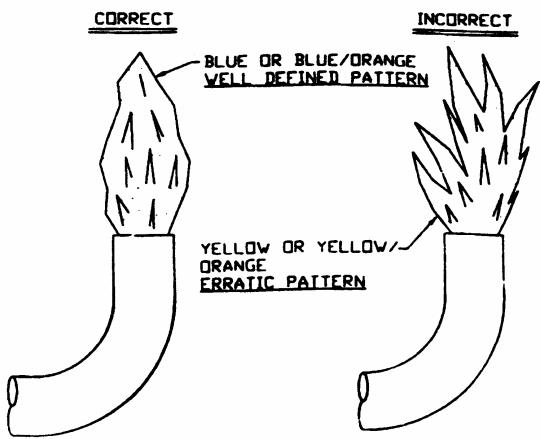

Figure 11
A. Main Burner: Do not allow the burner to burn with a yellow flame, because sooting will occur. (See Safety Warnings). If the burner flame is yellow and has an erratic pattern, shut unit down and contact a qualified service agency. Do not continue operating unit with improper burner flame. (See Figure 11 for correct and incorrect burner flame appearance)